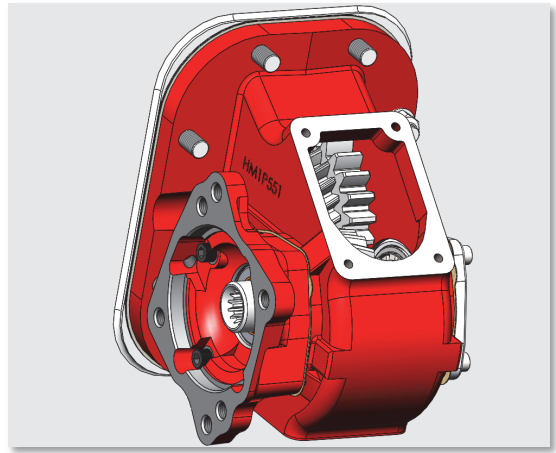

Fig. 5
10. Remove the shift cover from the PTO and mount the PTO on the transmission (Fig. 5). Make sure that the output shaft is on the desired position.